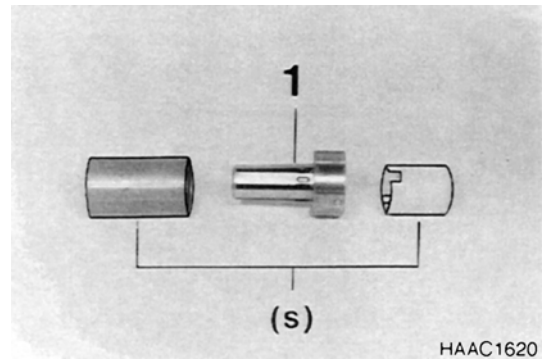

Figure 92
2. Figure 92, shows required special tool for the dismantling of the converter safety valve.